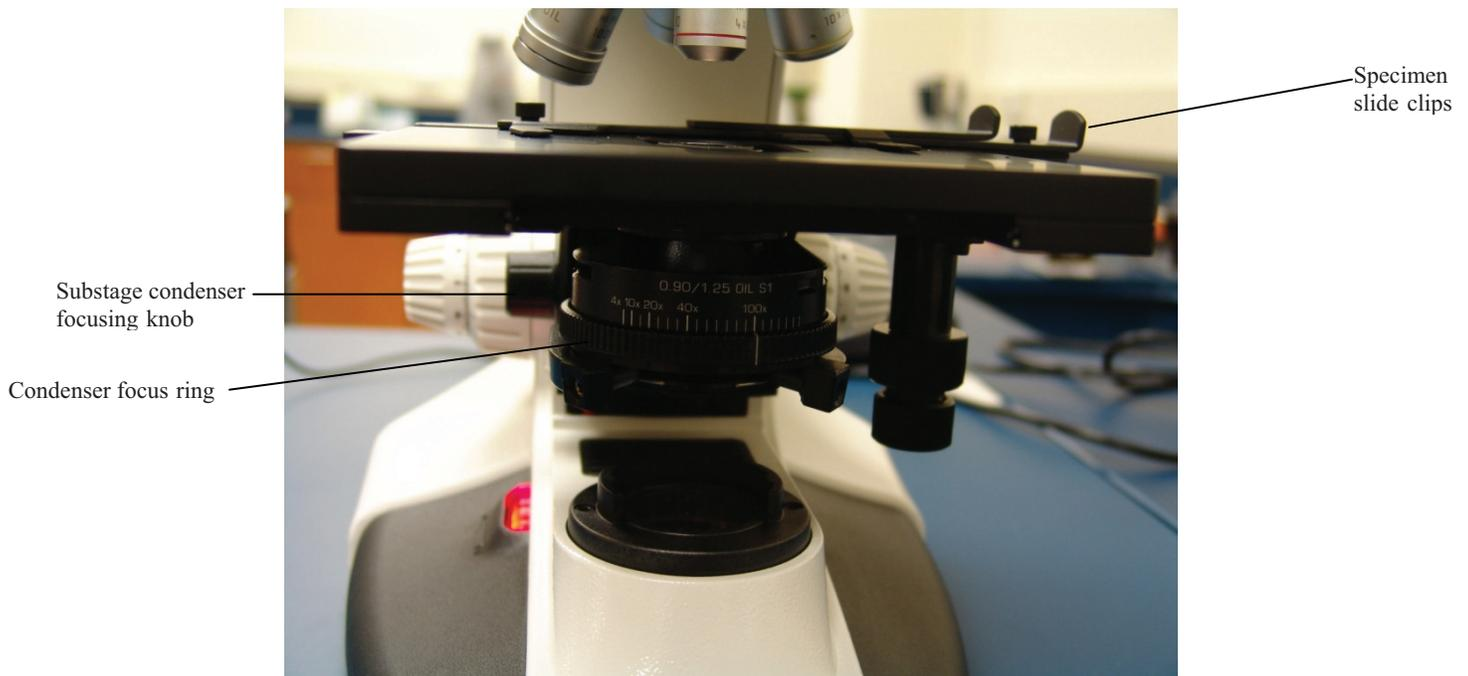

Figure 3: Leica DME microscope front component view
- 9.3. Figure 3: Leica DME microscope front component view